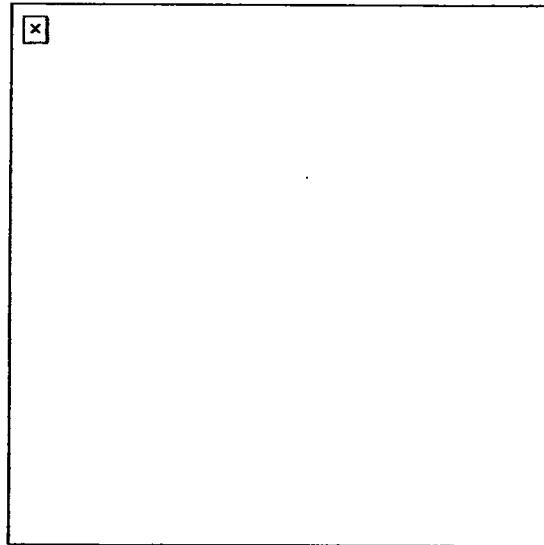

Figure 191-376-4122-2
2. Assume the safeguard position as shown in Figure 191-376-4122-2.